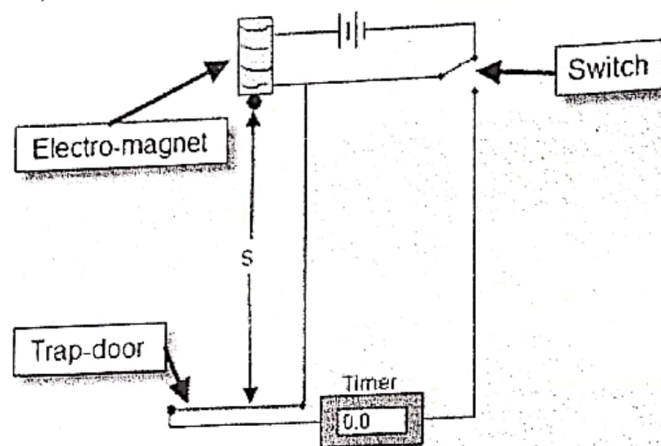

Figure 3.1: Acceleration due to gravity apparatus set up
1. Set up the apparatus as shown in figure 3.1.